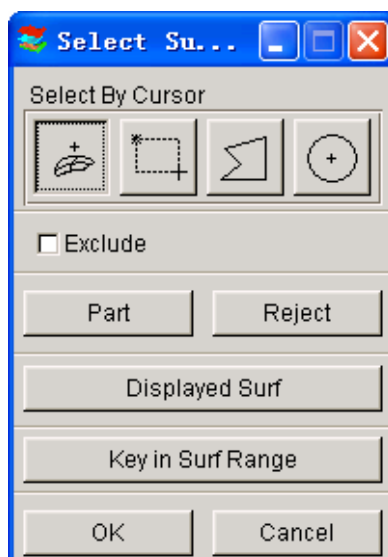

Figure 4.3.8 Select Surface
- Select **SURFACE(S)**, and the **SELECT SURFACE** dialog window appears. See Figure 4.3.8.